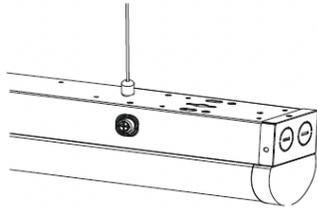

Fig. 29
7. Remove the cover and use M5 square screw and M5 fixed head to secure fixture (Fig. 29).
8. Finish the safety rope installation (Fig. 29).